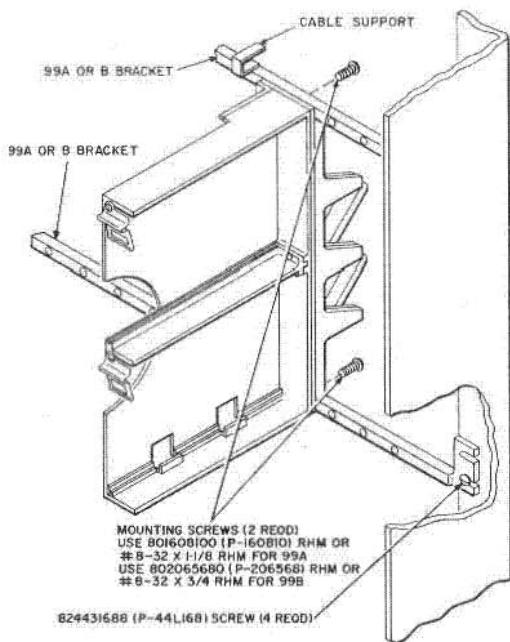

Fig. 6—69-Type Apparatus Mounting on a 99-Type Bracket
- 69-type apparatus mountings (Fig. 6), or 601A, 602A, or 603A panel on 99-type brackets.